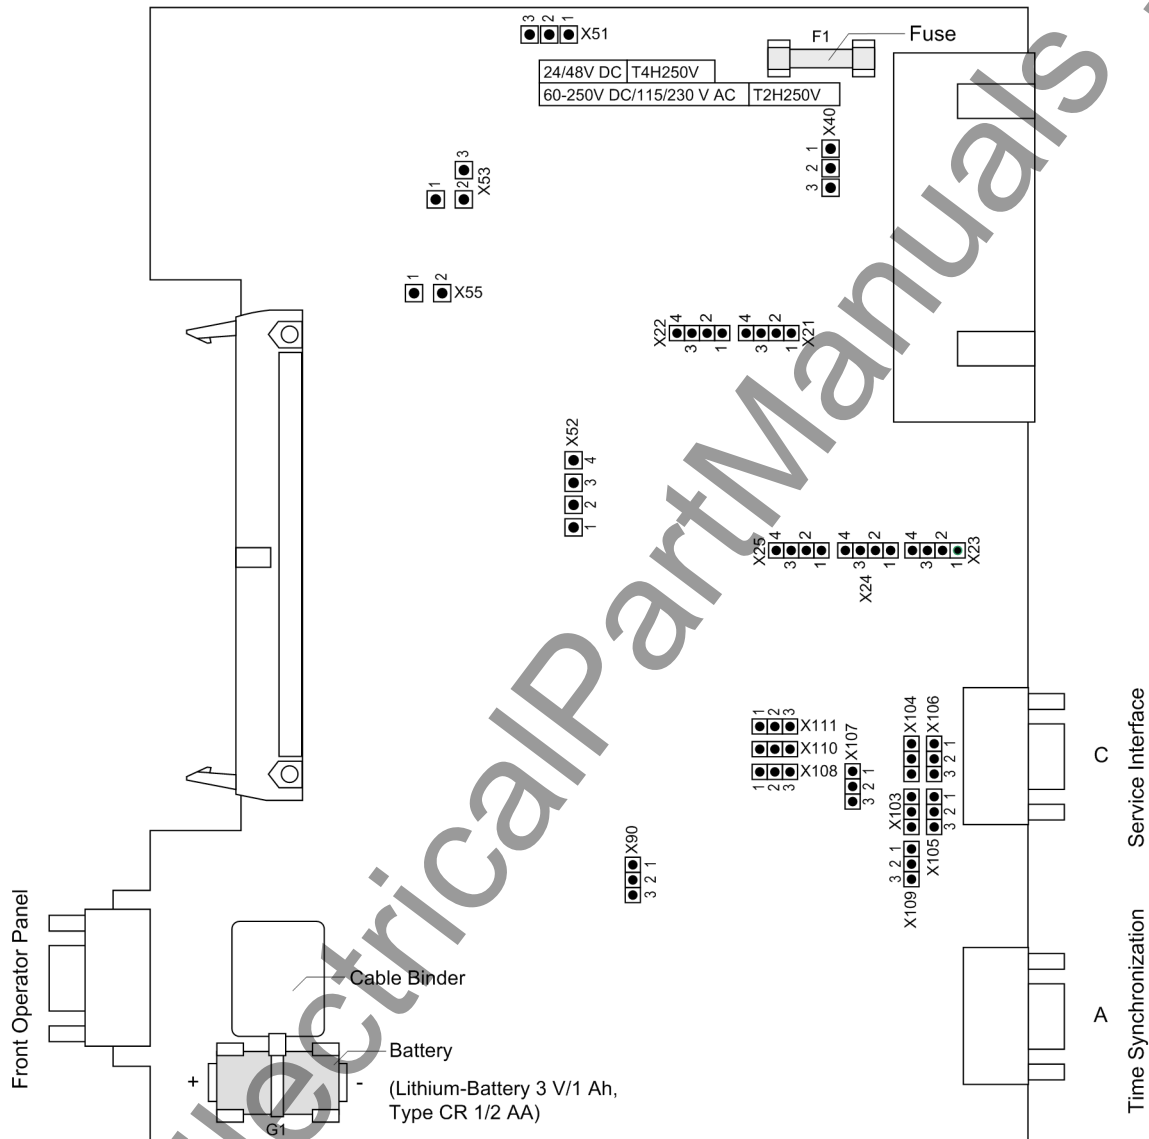

Figure 3-4 Processor printed circuit board C-CPU-2 with jumpers settings required for the board configuration
- Disconnect the ribbon cables between the C-CPU-2 board (1) and the I/O boards ((2) and (3), (depending on the variant ordered)).
- Check the jumpers according to Figures 3-4 to 3-7 and the following information, and as the case may be change or remove them.